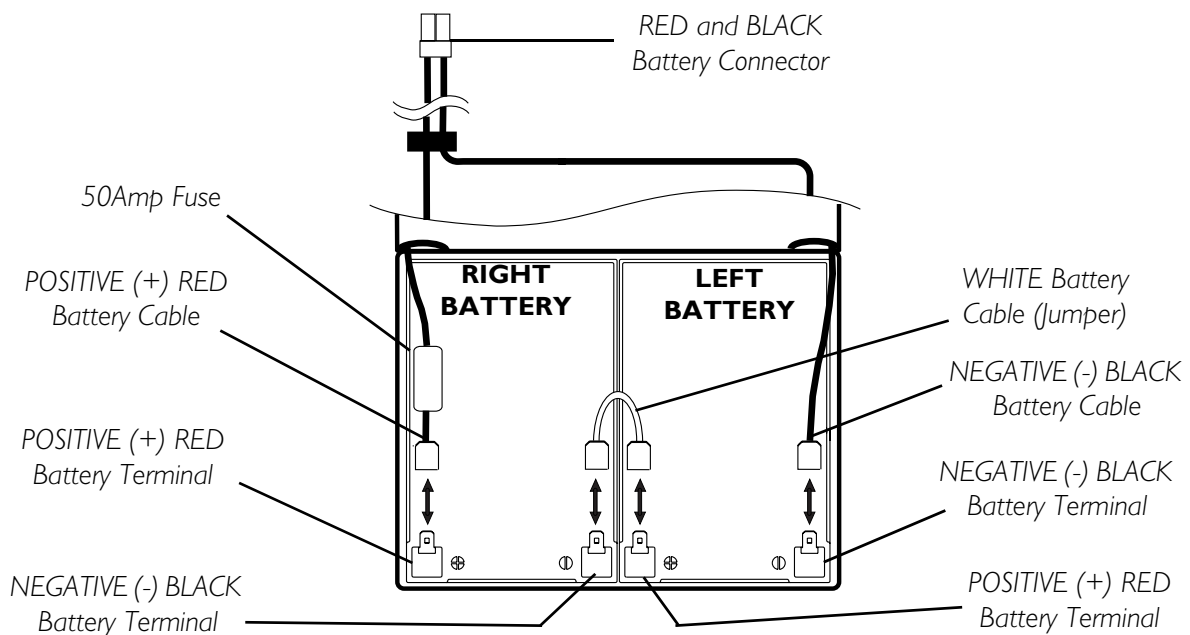

FIGURE 12.2 - REMOVING/INSTALLING THE BATTERIES ON 300
When connecting the battery cables to the batteries, the battery cables **MUST** be connected to the battery terminals/posts as shown in **FIGURE 12.2** for 300 and **FIGURE 12.5** for 400 - otherwise damage to the battery may result.
NOTE: For this procedure, refer to FIGURE 12.2.
6. Disconnect the RED and BLACK battery connector from the wiring harness assembly (Detail “B” of FIGURE 12.2).
7. Disconnect the wiring harness from the batteries by holding the connectors and pulling them in the following order (Detail “B” of FIGURE 12.2):
8. Remove the existing batteries from battery tray by lifting the batteries OUT in the direction shown in Detail “A” of FIGURE 12.2.
5. Install two (2) batteries into the battery tray.
6. Connect the wiring harness to the new batteries in the following order (Detail “B” of FIGURE 12.2):
8. Secure batteries in the battery tray using the battery strap (Detail “A” of FIGURE 12.2).